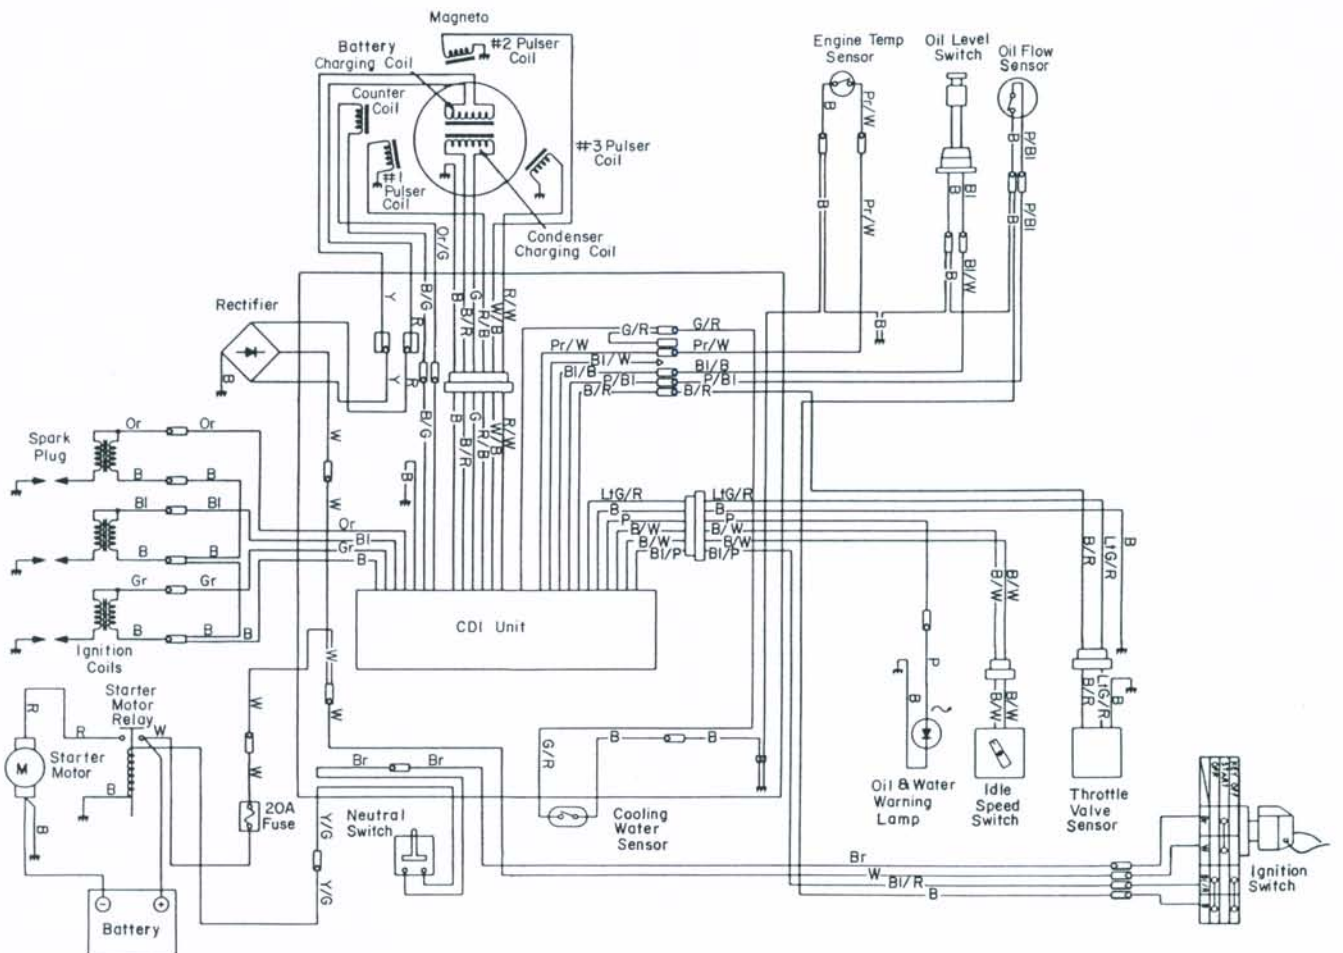
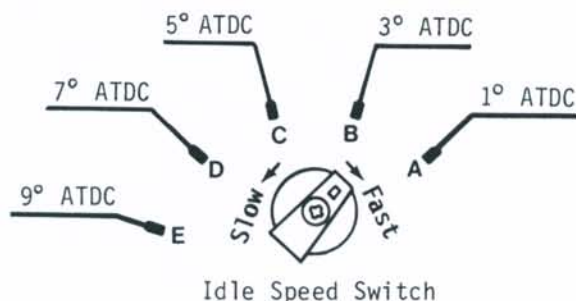

Fig. SZ11-44—Wiring diagram of electrical system on models equipped with electric starter.
Fig. SZ11-49—Ignition timing at idle speed should be as shown at the corresponding idle speed switch positions.
A breakerless, integrated circuit, capacitor discharge ignition system is used. Refer to Fig. SZ11-44 for wiring diagram. An integral ignition control mod-
TROUBLE-SHOOTING. If ignition malfunction occurs, check condition of spark plugs, and all wires and connections before trouble-shooting ignition system. Use only approved procedures to prevent damage to the components. The fuel system should be checked first to make certain that faulty operation is not the result of incorrect fuel mixture or contaminated fuel. Use Suzuki Pocket Tester 09900-25002 or a suitable ohmmeter to test ignition components and circuits. Refer to Figs. SZ11-44 and SZ11-46 when trouble-shooting ignition system.
Ignition timing at idle speed should be as shown in Fig. SZ11-49. Note that each position of switch should change engine idle speed approximately 50 rpm. If timing and engine rpm do not change with each switch position, idle speed switch is defective and must be renewed.
To test idle speed switch with Suzuki Pocket Tester 09900-25002 or a suitable ohmmeter, disconnect idle switch and connect tester between black wires with white tracer (Fig. SZ11-44). Switch resistance on 1988 models should be as follows: Position (A—Fig. SZ11-49)—zero ohm; position (B)—2200 ohms; position (C)—4700 ohms; position (D)—13,000 ohms; position (E)—infinity. Switch resistance on 1989 models should be as follows: Position (A—Fig. SZ11-49)—zero ohm; position B—11,000 ohms; position C—22,000 ohms; position D—68,000 ohms; position E—infinity. Renew idle speed switch if resistance values are not as specified.
BATTERY CHARGING COIL. Refer to Fig. SZ11-44. Flywheel must be re-